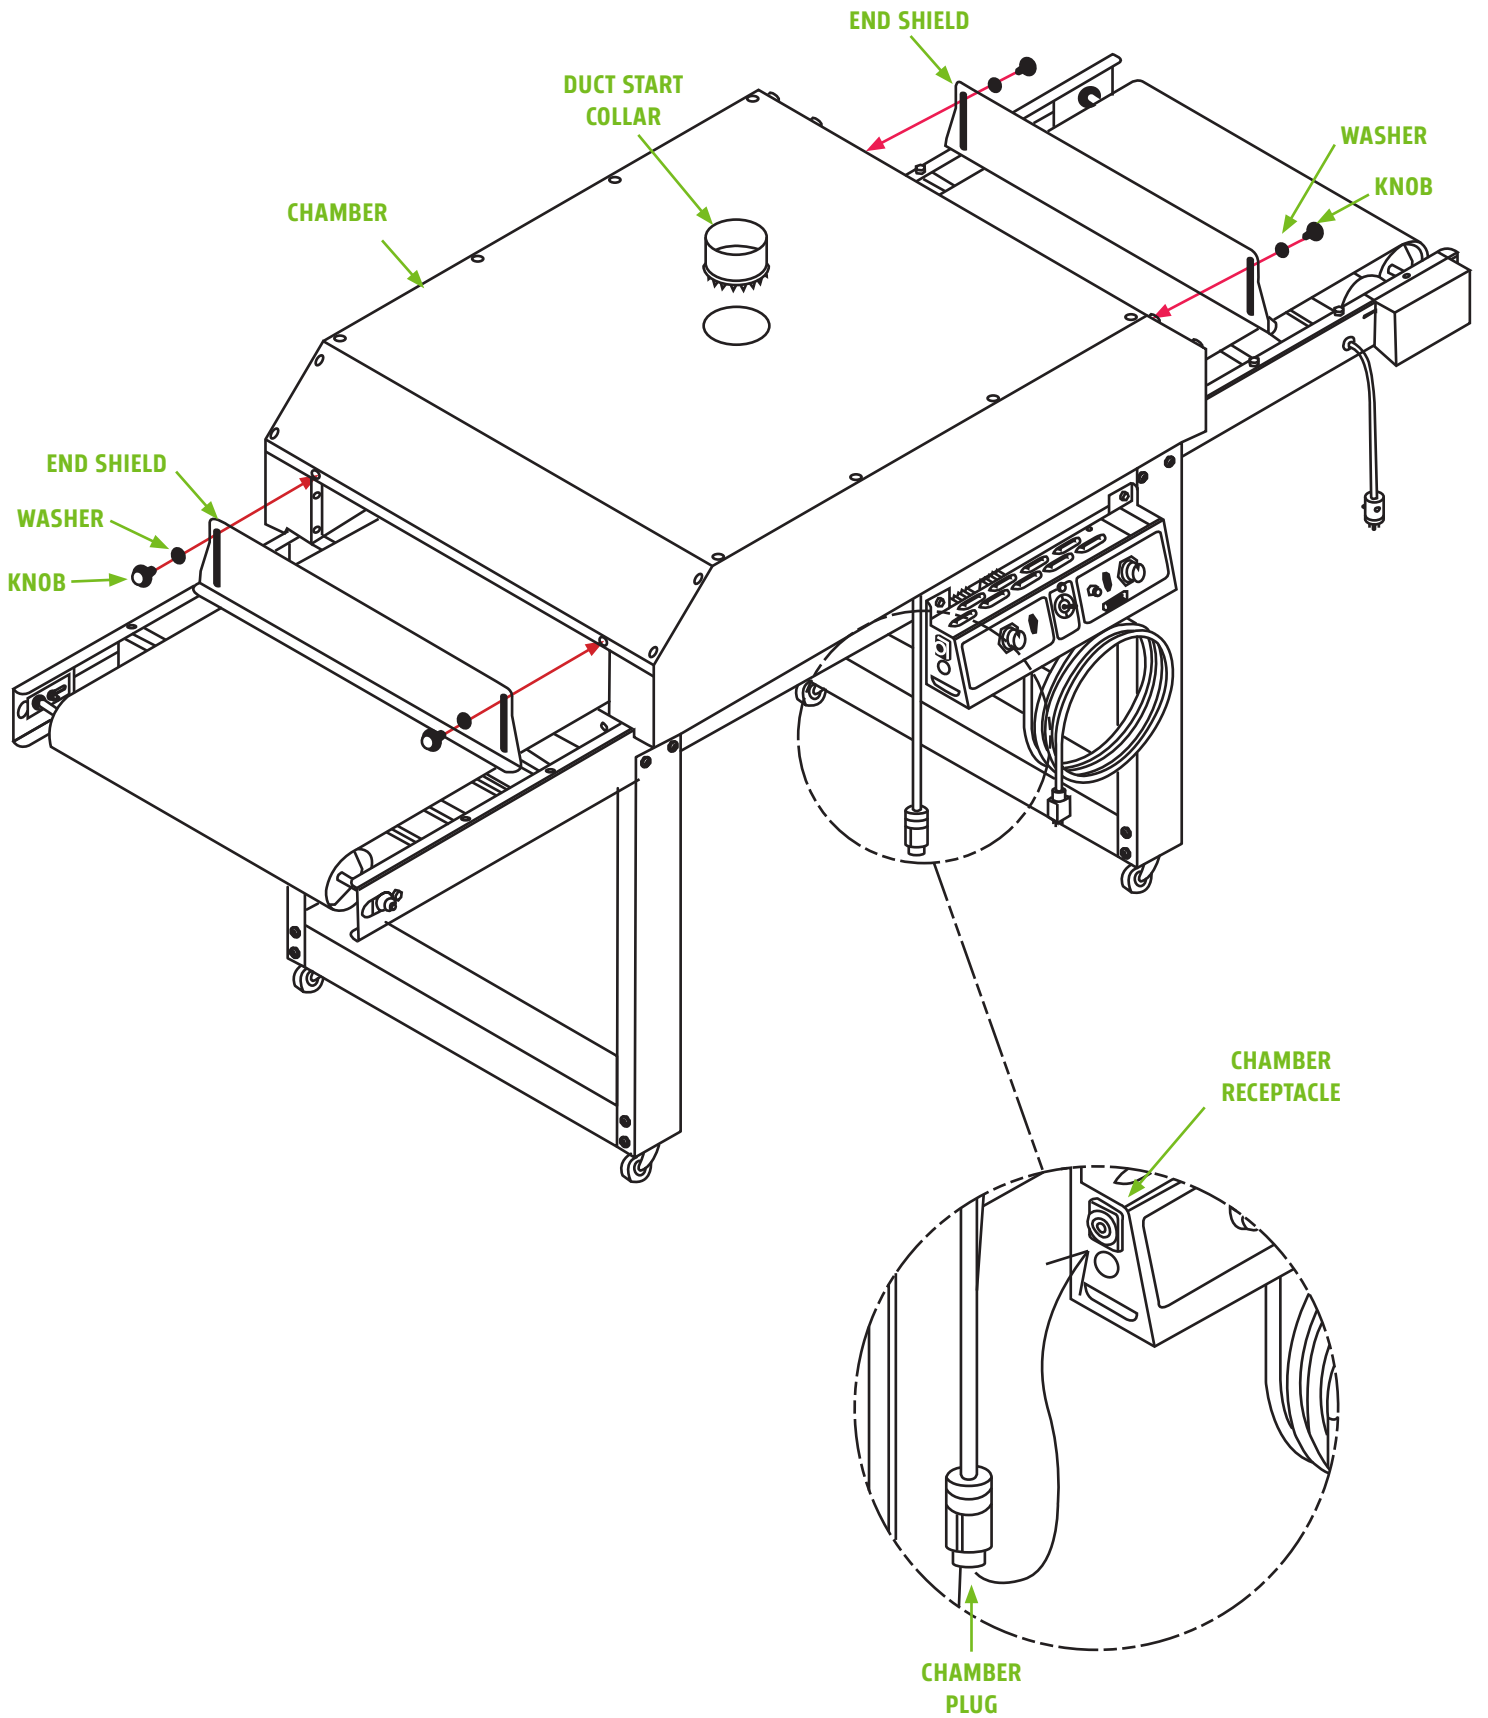

FIGURE 8
3. Insert the Duct Start Collar into the hole in the top of the Heating Chamber (See **Figure 8**). Once in position, bend the tabs at the base of the collar outward to secure it in place. Place the two-foot section of 4" diameter Duct onto the Duct Start Collar.
4. Insert Knobs through Washers and End Shields. Tighten Knobs in Heating Chamber to place End Shields at the desired height on the entrance and exit of the Heating Chamber (See **Figure 8**).
5. Plug the Heating Chamber cord into the receptacle on the Control Panel (See Magnified View, **Figure 8**).
5. Plug the Heating Chamber cord into the receptacle on the Control Panel (See Magnified View, **Figure 8**) [Page 9].